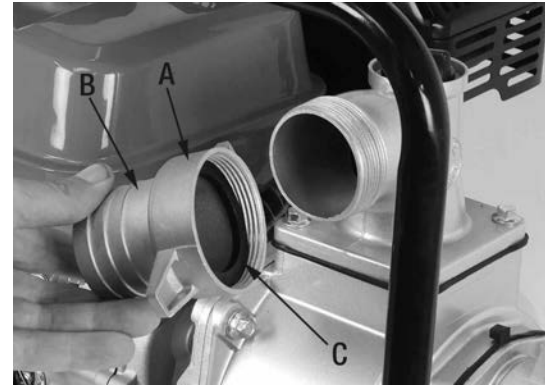

Figure 5
- 1) Unscrew and remove nut connector (A) Fig.5, place hose adaptor (B) into the nut connector, then press rubber gasket (C) on the inside of the nut connector, against the hose adaptor. Fig.5 shows the assembly of the outlet nut connector.